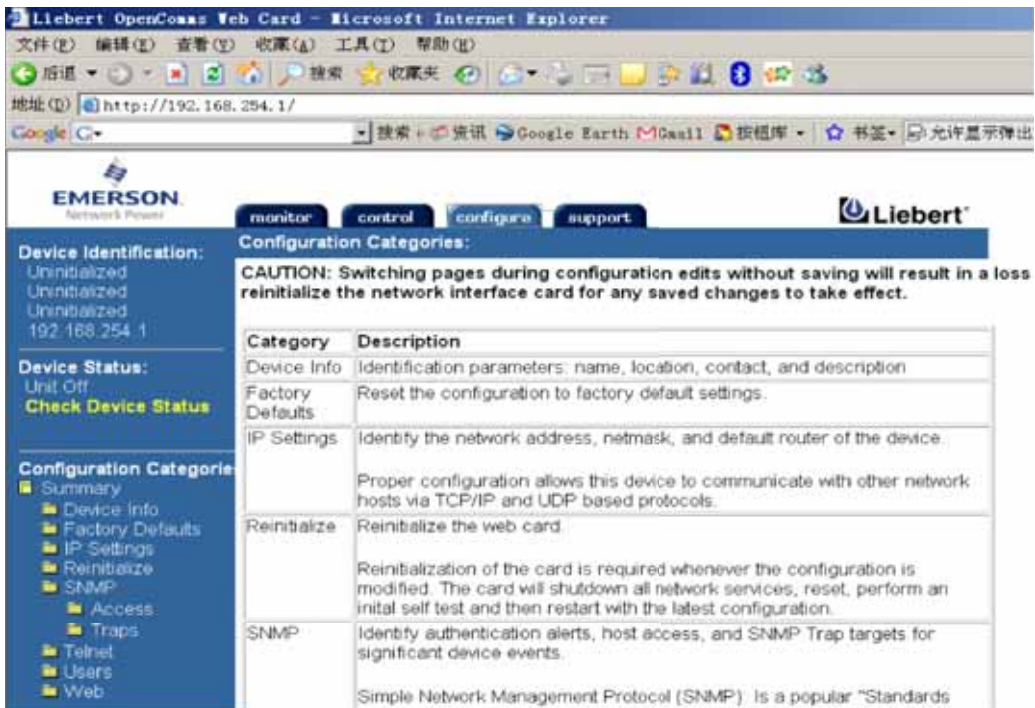

Figure 6-10 Configuration interface
2. Click the configure tab to enter the configuration interface, as shown in Figure 6-10.